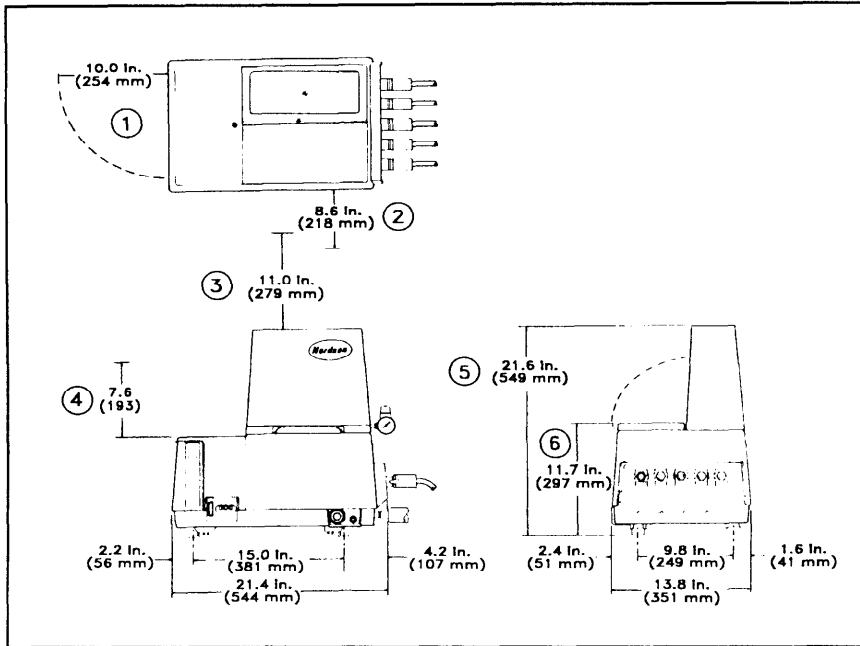

Figure 3.2:
- Install the applicator so panels can be removed and the unit is otherwise accessible for operation. See Figure 3.2 for required clearances.